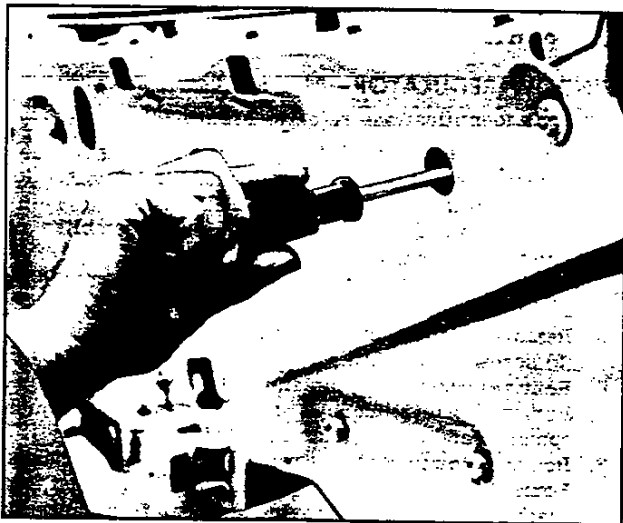
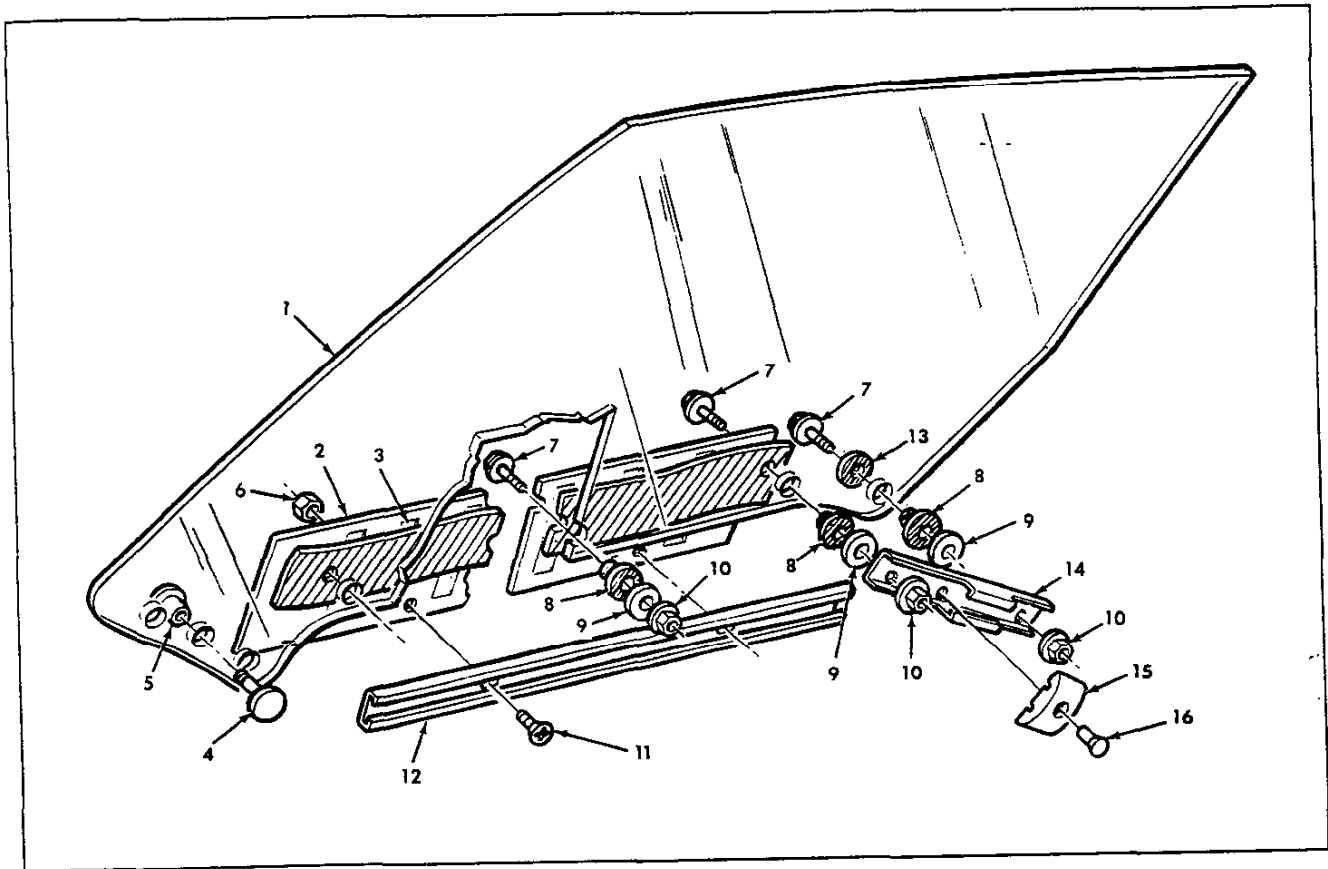

Fig. 24—Removing Sash Screws
Fig. 25—Glass and Frame Assembly
3. Position window all the way up to line up two (2) sash screws through access holes.
4. Remove two (2) sash screws on horizontal guide channel while holding nut with other hand (fig. 24).
5. Disengage stop by removing one (1) Phillips head screw at top of channel assembly.
If replacement glass is necessary, disassemble two (2) pads and fasteners, and frame assembly by removing three (3) mounting bolts through glass (fig. 25). Mount frame assembly and pads onto new glass before installation into door.